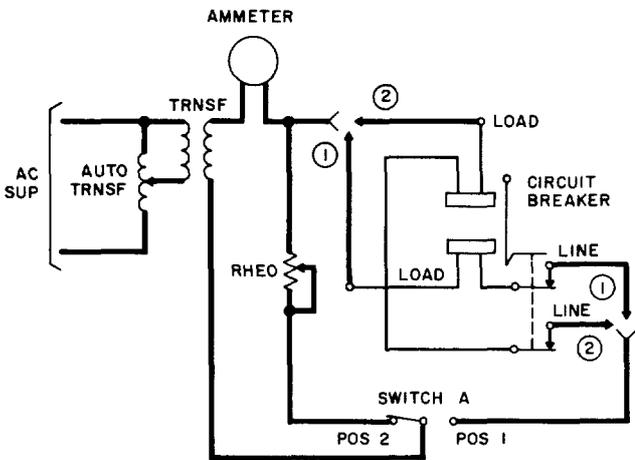

Fig. 20—Checking Circuits—AC Breakers—KS-5786, L1; KS-15659, L3-L12, L14; KS-15815, L25-L35, L40
- (b) **KS-5786:** To check a KS-5786 circuit breaker, proceed in accordance with Method 3. Refer to Fig. 20. Check each pole separately as shown by options 1 and 2.
(d) **KS-15659:** To check a KS-15659 circuit breaker, proceed in accordance with Methods 1 or 3, as applicable. Refer to Fig. 20, 21, or 23. Check each pole separately as shown by options 1 and 2. L16 is a switch only.